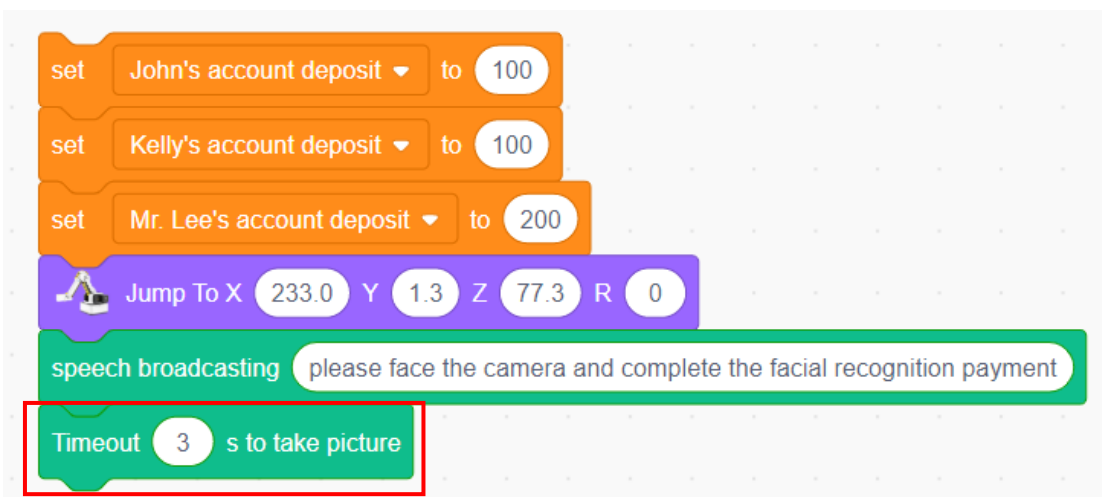

Figure 5.23 Collecting facial images
Step 5: Collect the facial image, and select "Timeout 3s to take picture" on the AI tab page, as shown in Figure 5.23.